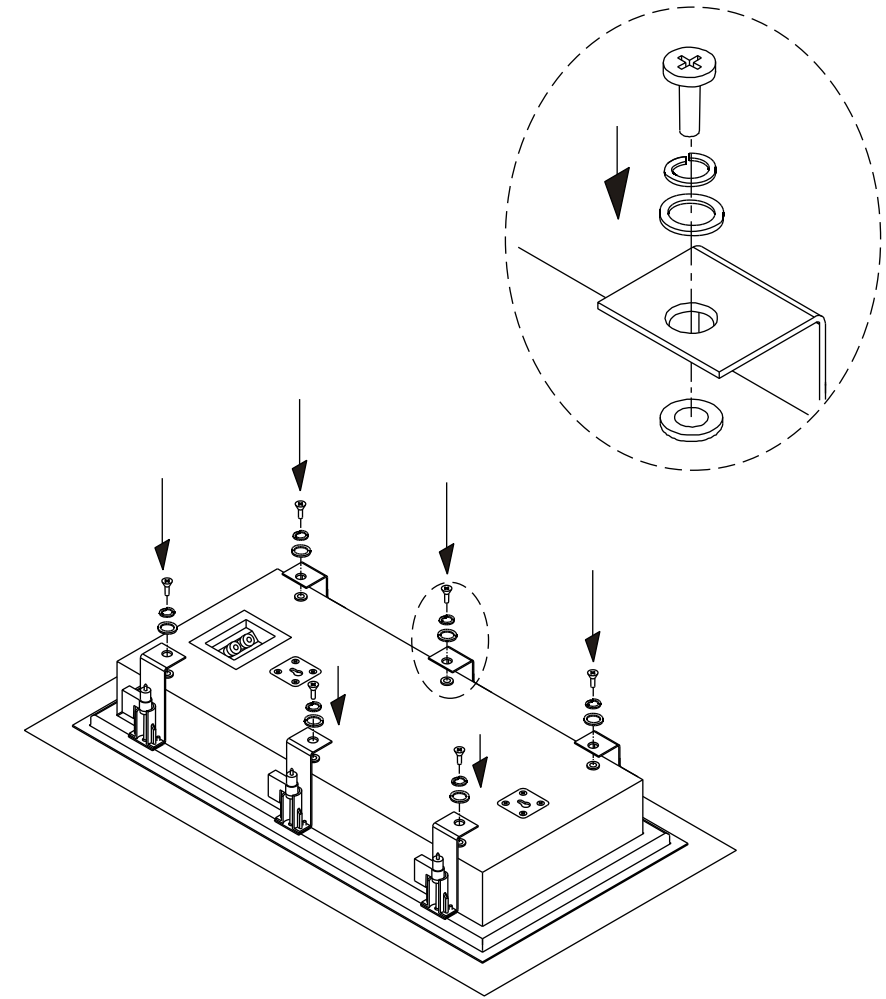

Fig 2
• fig 2 •
- Fix the machine screws along with flat washer and spring washer supplied, to hold the tongues to the cabinet back. Tighten the screws. Please see fig. 2 below.